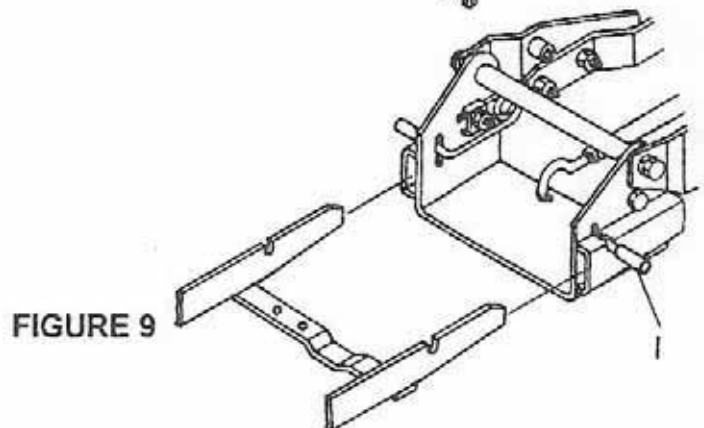

FIGURE 9
- c) Attach the snowblower to the tractor subframe by placing the male hitch flat bar into subframe's female channel hitch (fig. 9). Be sure the male hitch is entered to it's maximum and is locked by the springs.
- a) Attach broom to the tractor subframe by placing the male hitch flat bar into the subframe's female channel hitch (fig. 9). Be sure the male hitch is entered to its maximum and is locked by the springs.